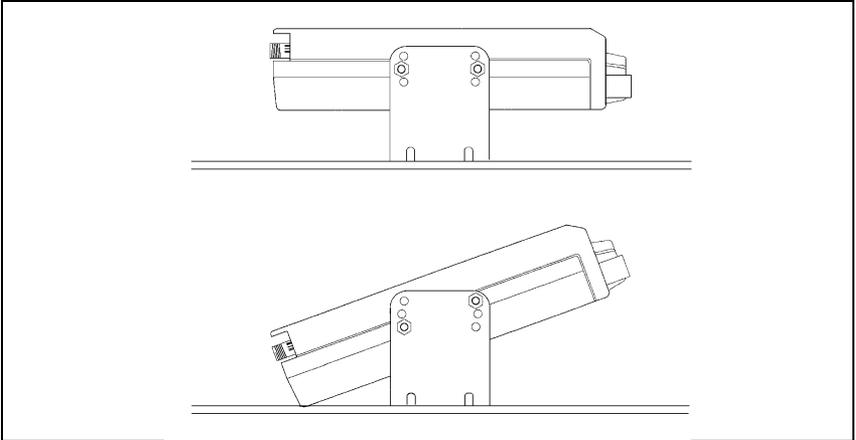

Figure 4 - Mounting the Charger
- 5) Using the four machine screws and lock washers, secure the unit to the mounting bracket. The charger can be fastened in any of three different positions: parallel to the mounting surface or tilted ± 20 degrees from the parallel position. See figure 4.